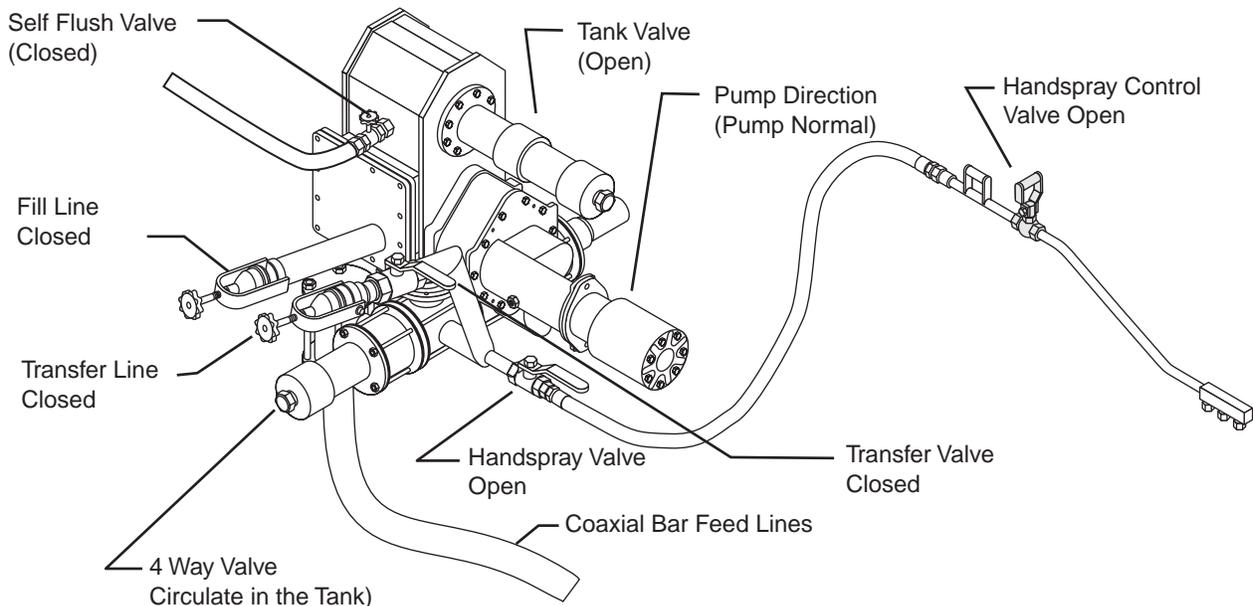

Figure 8. Valve Positions for Handspray
3. Open the hand spray valve. (see Figure 8)